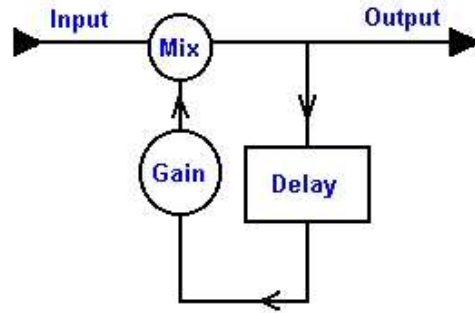

Figure 2: Illustration of reverb system
By putting a few echo filters in series, the user can create a reverberating filter, which causes the output to sound like a person yelling into the mountains. These filters are also known as comb filters. This is one of the main effects that are used on electric guitars to make notes last a lot longer and fade out. A schematic for a basic reverb filter is given in figure 2.
- Write a program that performs the reverb system shown in Figure 2 and apply it to the signal in step 1 with Gain = 0.5 and delay = 500ms.